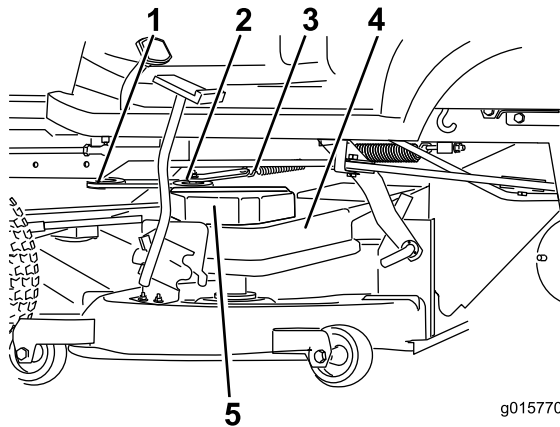

Figure 1
1. Remove the belt from the PTO clutch and the idler tension spring from the idler pulley (Figure 1).
3. Remove the pulley cover and the pulley under it from the left side of deck belt cover (Figure 1).